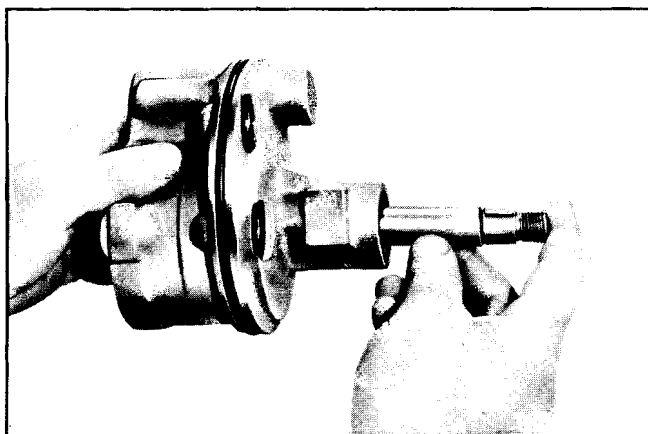

Fig. 9-118 Installing Pump Shaft
1. Insert shaft at hub end of housing, spline end entering mounting face side (Fig. 9-118).